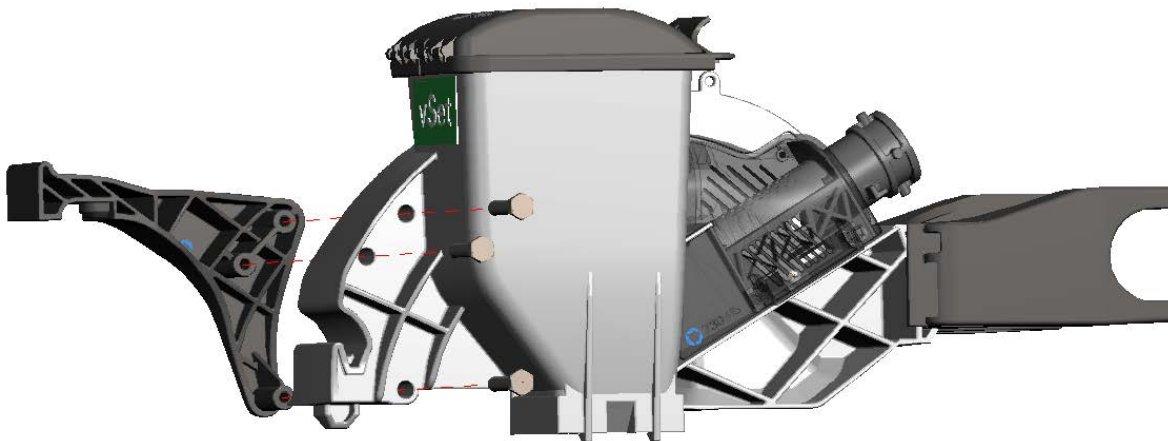

Figure 3 – Rear Bracket Installation
- c) Position the rear bracket with the three mounting holes on the mini hopper. Install the rear bracket using the three (3) M8 X 45 hex head screws. Refer to figure 3.